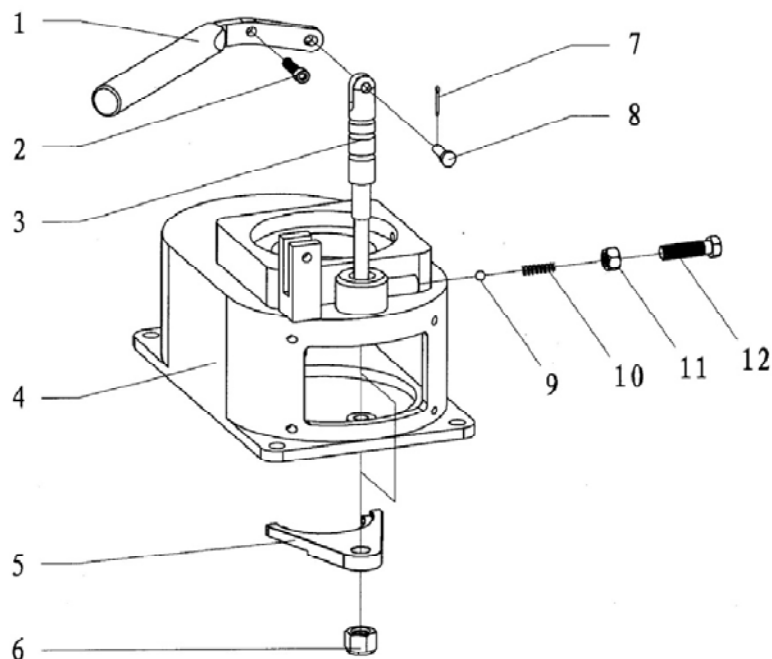

Fig 11
7.8. Shifting assembly (Upper) (Fig11, Table10)